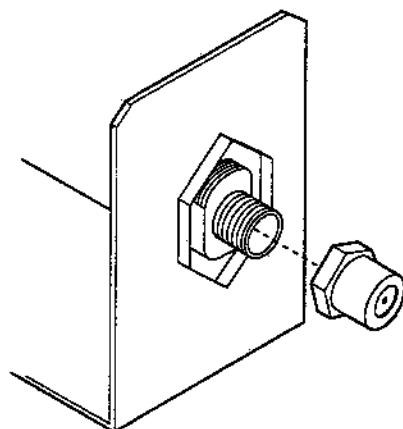

Figure 54
**Step 6.** Unscrew the orifice from the manifold and replace it with the one provided with the kit, #41(0.096) for natural gas units and (0.056) for propane (Figure 54).